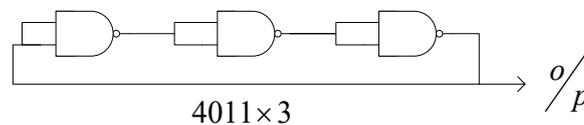

Fig. 3. Ring oscillator using 4000 series.
2. Connect the circuit shown in Fig. 3.